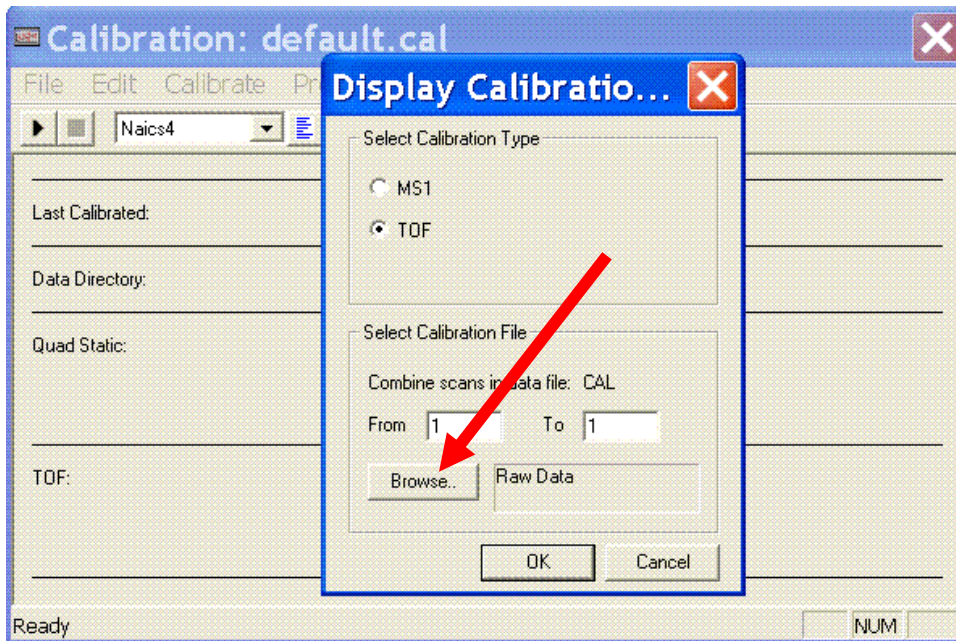

Figure 15
8. Click on “Calibrate” then choose “From File.” This will give the window in Figure 15.